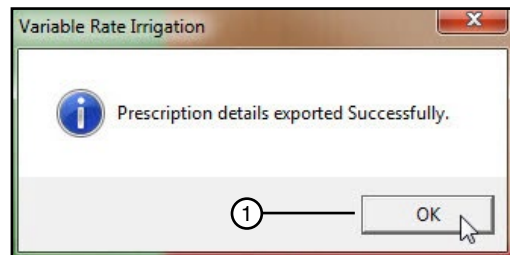

Figure 34-3 1. OK Button
3. Click **OK**. See Figure 34-3.